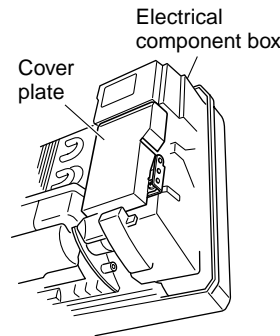

Fig. 25a
- c) Remove the screws to open the cover plate securing the electrical component box. (Figs. 25a, 25b, 25c and 25d)